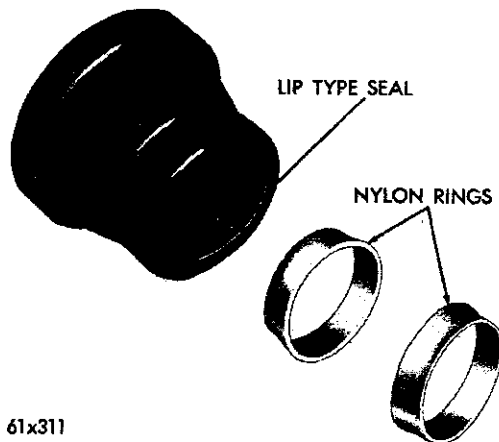

Fig. 5—Nylon Rings and Lip Type Seal (Disassembled View)
(6) Apply wheel bearing lubricant to the nylon rings and lip of the jacket tube seal and position the seal cup and nylon rings on the jacket tube large diameter of the nylon rings butt and are retained by the recess caused by the seal lip (Fig. 5).
(7) Slide the seal onto the steering shaft, and down against the coupling, with the lip at the outside diameter facing upward, so the seal can be positioned on the lower end of the column jacket during assembly.
(8) Slide the steering shaft into the column assembly, and install the horseshoe shaped lower snap ring in the lower groove on the steering shaft.
(9) Place the steering column upper bearing on the steering shaft.